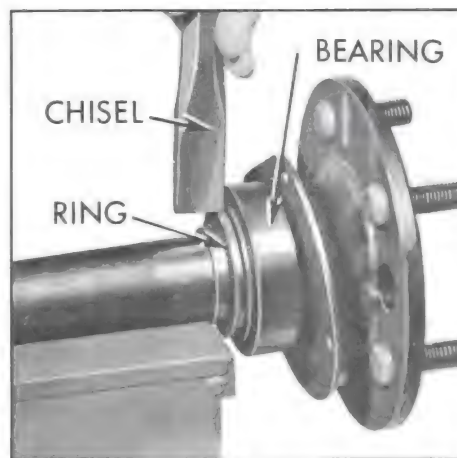

Figure 6-6—Removing Rear Wheel Bearing Retaining Ring
1. Notch wheel bearing retaining ring in 3 or 4 places with a chisel. See Figure 6-6. Retaining ring will expand so that it can be slipped off. **CAUTION:** Axle shaft may be nicked if ring is cut completely through.